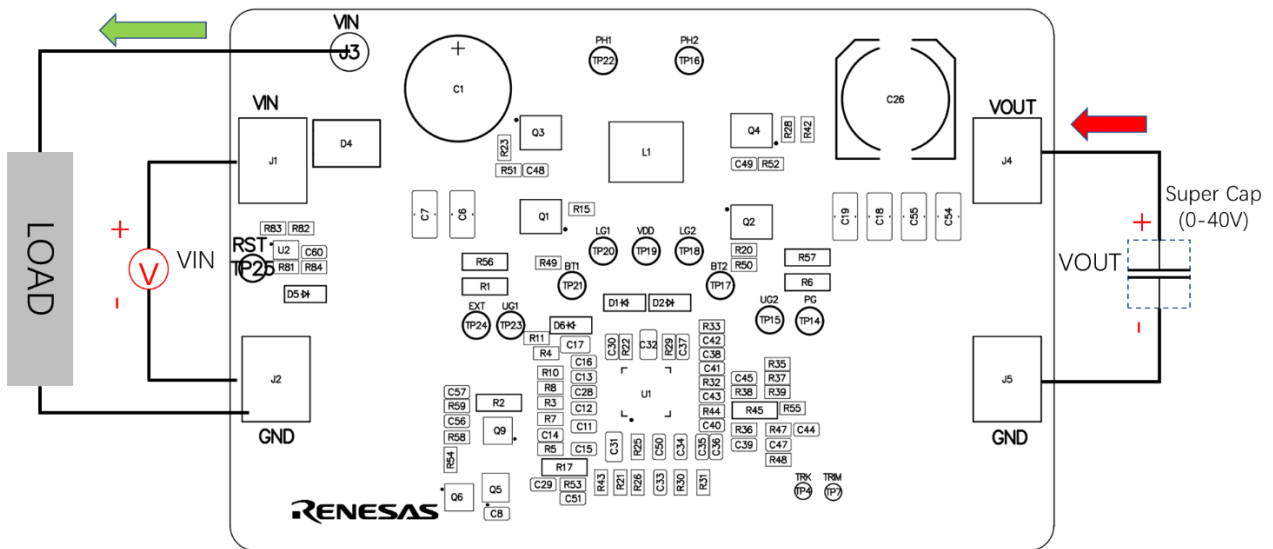

Figure 4 Discharging current direction
As shown in Figure 4 on page 3. After the DC power off, super cap start discharge. The J4(+) and J5(-) is converted to power input. The regulated 11V output on J3(+) and J2(-) can supply up to 3A to load.
- 4, When the charging voltage of the super cap reaches the set value, the charging ends. Then turn off the power, the board start discharges. Refer to Figure 4 for the current flow direction.